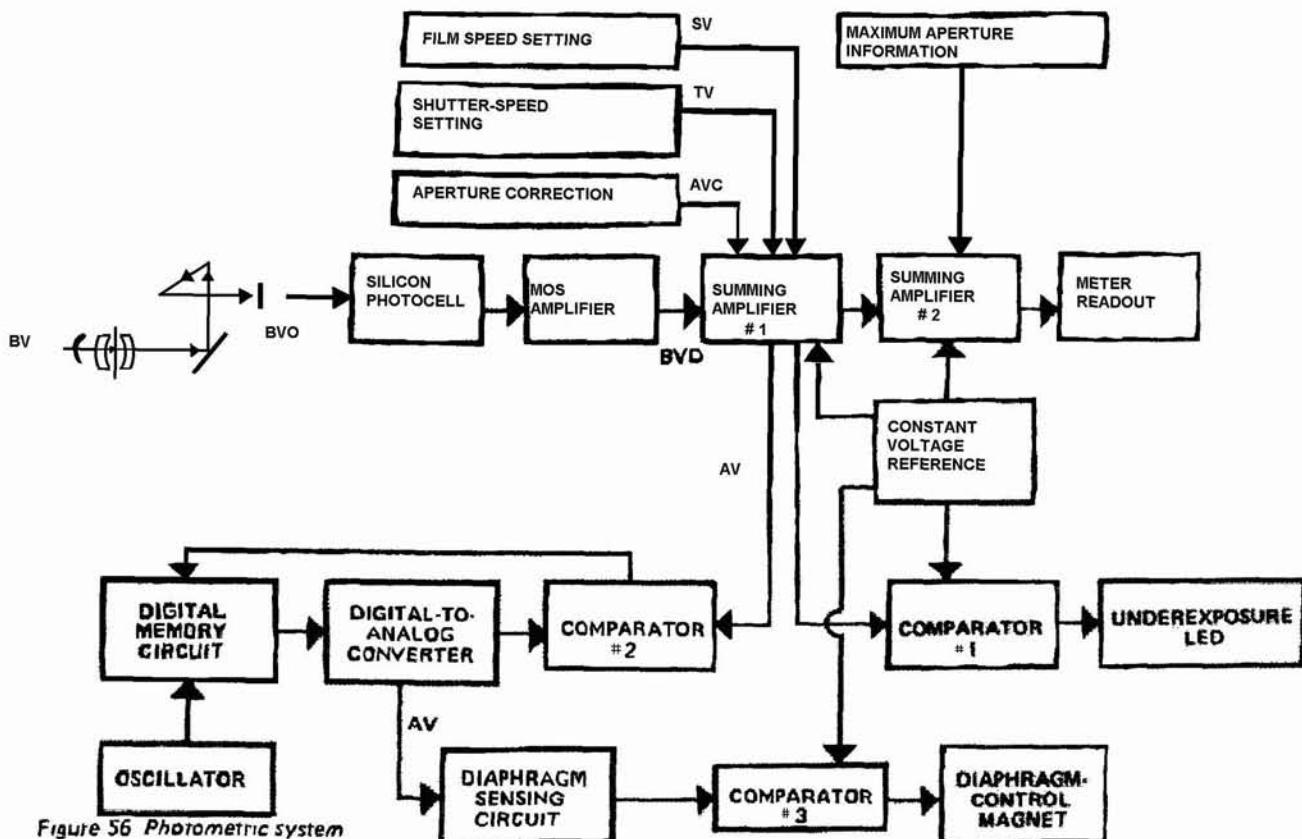

Figure 56 Photometric system
Probably the most unique part of the AE-1 involves the photometric system—the system that reads the light, provides the meter indication, and controls the diaphragm closure. Since Canon uses the Apex system in its service materials, we've put the Apex symbols in Fig. 56.
The brighter the light (the higher the BVO), the more voltage the silicon photocell puts out. The MOSFET then amplifies the voltage across the photocell. This amplified version of BVO goes to summing amplifier No. 1 in Fig. 56.
considered. But for the meter readout, the system must add one more factor—the maximum-aperture information AVO. A second variable resistor on the mirror cage, also controlled by the maximum-aperture correction pin, provides the maximum-aperture information. Summing amplifier No. 2, Fig. 56, then adds the maximum-aperture information to the AV information from summing amplifier No. 1. And it provides an output which drives the galvanometer needle to the proper f/stop reading.
So far, all we've done is get a meter readout. However, the same AV information at the output of summing amplifier No. 1 also controls the diaphragm-closing system. Notice that the two lower outputs from summing amplifier No. 1, Fig. 56, go to comparators.
Comparator No. 1 in Fig. 56 controls the underexposure LED in the finder. First, it compares the AV signal from summing amplifier No. 1 to the constant voltage reference Vc. If AV is below 1.2 volts, the comparator switches into positive saturation. And the underexposure LED flashes on and off, telling you that you're outside the metering limits.
2. And comparator No. 2 controls the memory circuit. When you depress the release button to close SW2, the oscillator shown in Fig. 56 starts feeding pulses to the digital memory circuit.
A digital-to-analog converter constantly monitors this count. And it turns the digital count into an analog voltage. As the count increases, the voltage output of the digital-to-analog converter decreases. This voltage then provides the second input to comparator No. 2 in Fig. 56—the other input, you'll recall, is the AV signal from summing amplifier No. 1.
Consider that the diaphragm is now closing. That means the diaphragm-control electromagnet Mg1 remains energized. As the diaphragm closes, it lowers the resistance in the diaphragm-sensing circuit, Fig. 56.
So the diaphragm-sensing circuit modifies the AV output of the digital-to-analog converter. And it supplies this changing output to comparator No. 3, Fig. 56. When the diaphragm-sensing circuit drops the AV input below the VC reference signal, comparator No. 3 switches into positive saturation. That shuts off the current flowing through the diaphragm-control electromagnet Mg1.
In a moment, we'll go through the same operations using the actual circuit. You'll then be able to see the test points and troubleshooting procedures. But you'll notice in Fig. 56 that you have a natural dividing point for troubleshooting—the output of summing amplifier No. 1.
Or, suppose that the diaphragm fails to stop down properly. It always remains at the largest aperture or it always stops down to the smallest apertures, regardless of the light conditions. Yet the meter reads correctly. Again, you know that the output of the first summing amplifier must be correct. Why? Because the meter reads properly. So the problem must be in the lower part of Fig. 56—most likely, the diaphragm-sensing resistor.
Amplifier AR1 inside PX3, Fig. 59, corresponds to summing amplifier No. 1 in the block diagram, Fig. 56. AR1 adds the shutter-speed information, the lens information, and the film-speed information to BVO.